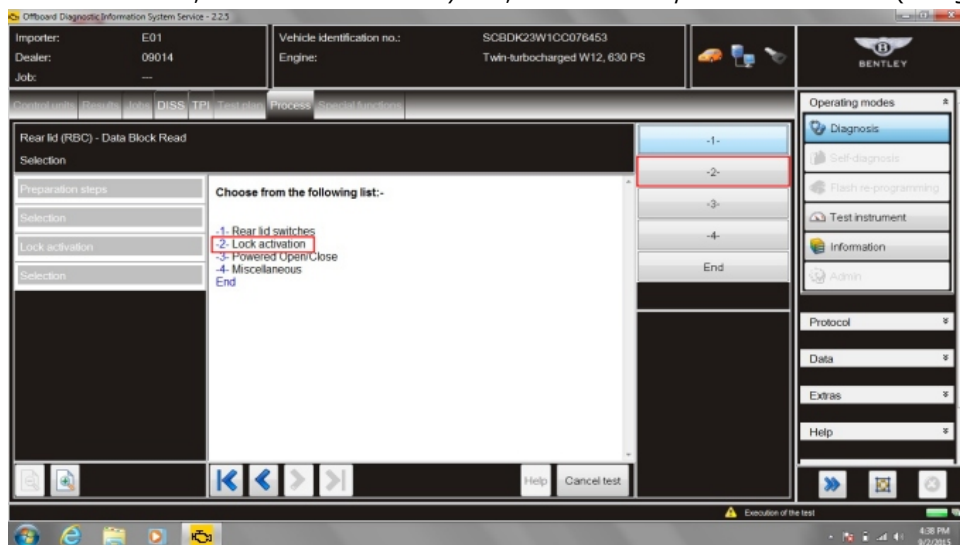

Figure 20
- Within Rear lid (RBC)-Data Block Read select *-2- Lock activation* (see Figure 20)